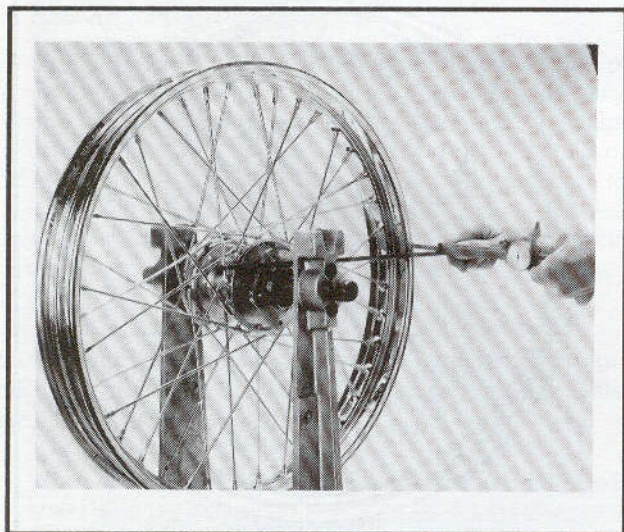

Figure 2-21. Check Laced Steel Hub Offset Dimension
3. **FRONT WHEEL:** See Figure 2-21. Lay a straightedge across the hub brake disc flange and one of the marked spoke groups. Measure the distance from the straightedge to the edge of the rim as shown. This dimension is offset. The offset dimensions are as follows: